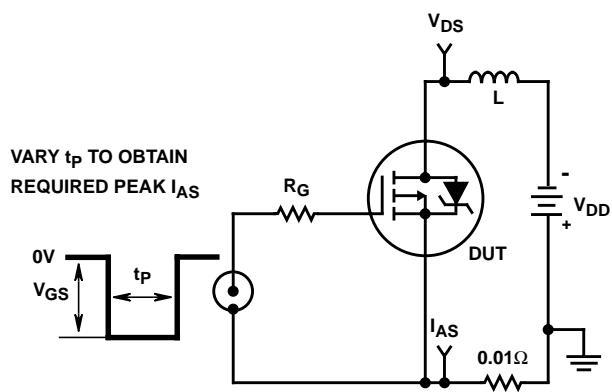

FIGURE 15. UNCLAMPED ENERGY TEST CIRCUIT
4. $V_{DD} = 25\text{V}$, starting $T_J = 25^\circ\text{C}$, $L = 5.2\text{mH}$, $R_G = 25\Omega$, peak $I_{AS} = 12\text{A}$. See Figures 15, 16.